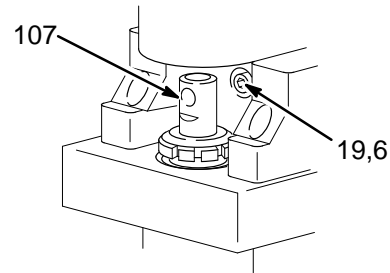
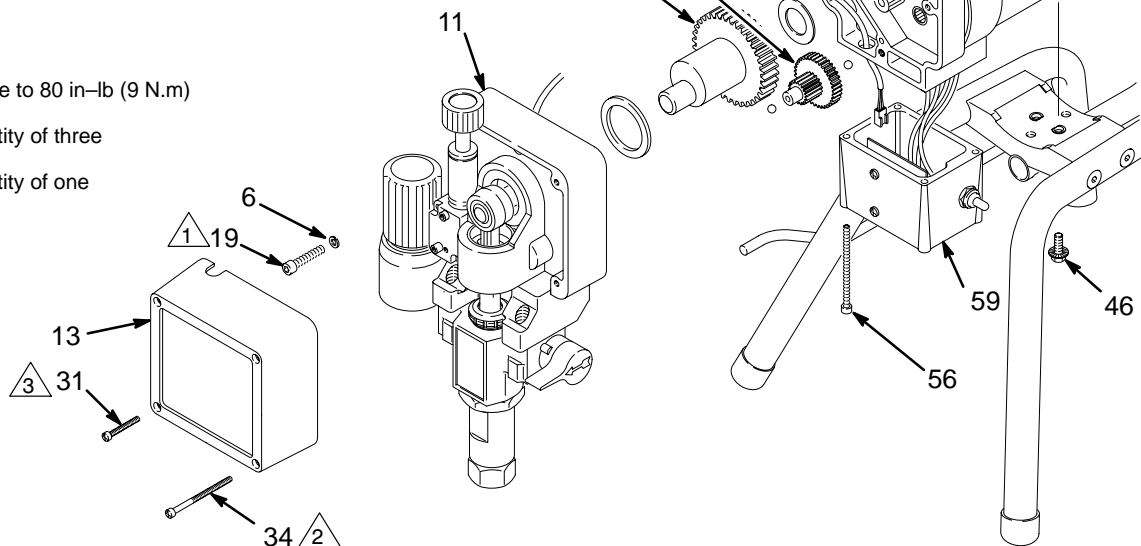
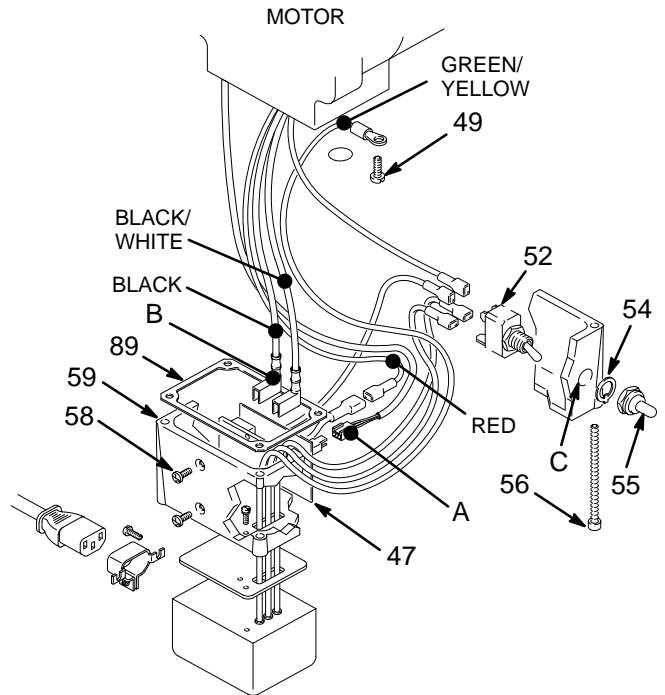

Fig. 19
Fig. 20
Fig. 21
NOTE: See Fig. 20 except where noted.
3. Remove the screws (56) and lower the junction box (59). Disconnect the motor wires and the pressure control wire (A) from the motor start board. Refer to Fig. 21 on page 23.
4. Remove the front cover (13).
5. Turn the displacement pump rod (107) so the pin hole aligns with the bottom drive housing screw (19). See Fig. 19. Remove the three drive housing screws and lockwashers (19,6). Also see Fig. 20.
6. Remove the two motor screws (5) and the lock washers (6).
7. Tap the lower rear of the drive housing (11) with a plastic mallet to loosen the motor. Pull the drive housing straight off the motor while guiding the harness (A) from the motor. Do not allow the gear (16) to fall. Read the CAUTION on page 24.
8. Remove the two screws (46) and lift the motor off the base (66).
9. Align the new motor with the base and reinstall the screws (46).
11. Connect the wires in the junction box. Refer to Fig. 21 on page 23. Install the junction box.
12. Connect the piston rod (107) to the drive housing; see page 21, **Installing the Pump**, Step 2 and the WARNING following it.
NOTE: See Fig. 21 for this procedure.